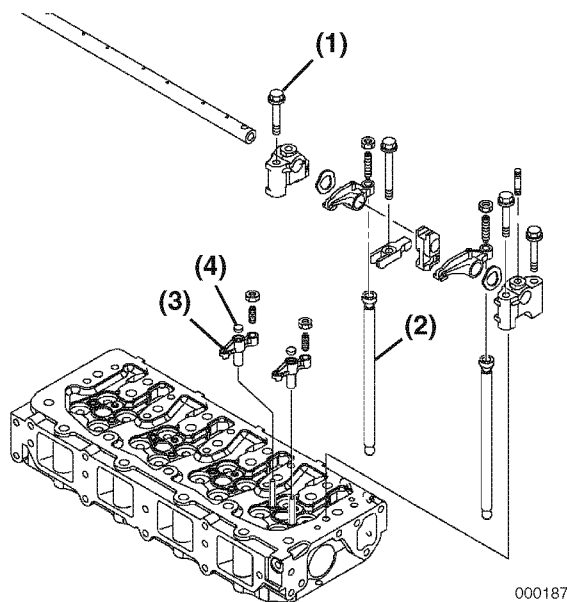

Figure 6-44
2. Remove the bolts (**Figure 6-44, (1)**) that retain the rocker arm shaft supports to the cylinder head.
4. Remove the push rods (**Figure 6-44, (2)**).
5. Remove the valve bridge assemblies (**Figure 6-44, (3)**). Remove the seat (**Figure 6-44, (4)**) from each valve bridge.